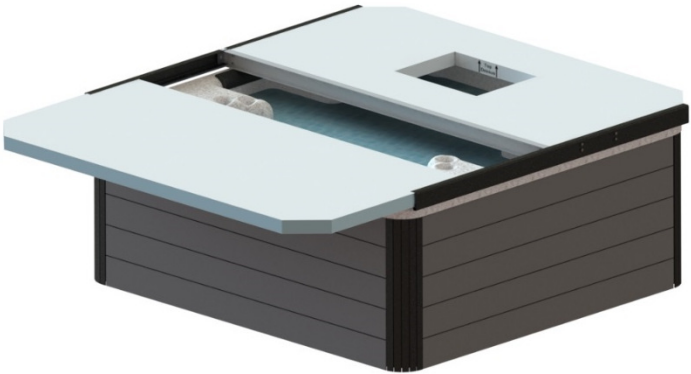

Figure 51
- 9) Slide the remaining panel into the C channels and press it slightly against the I-beam. (Figure 51)